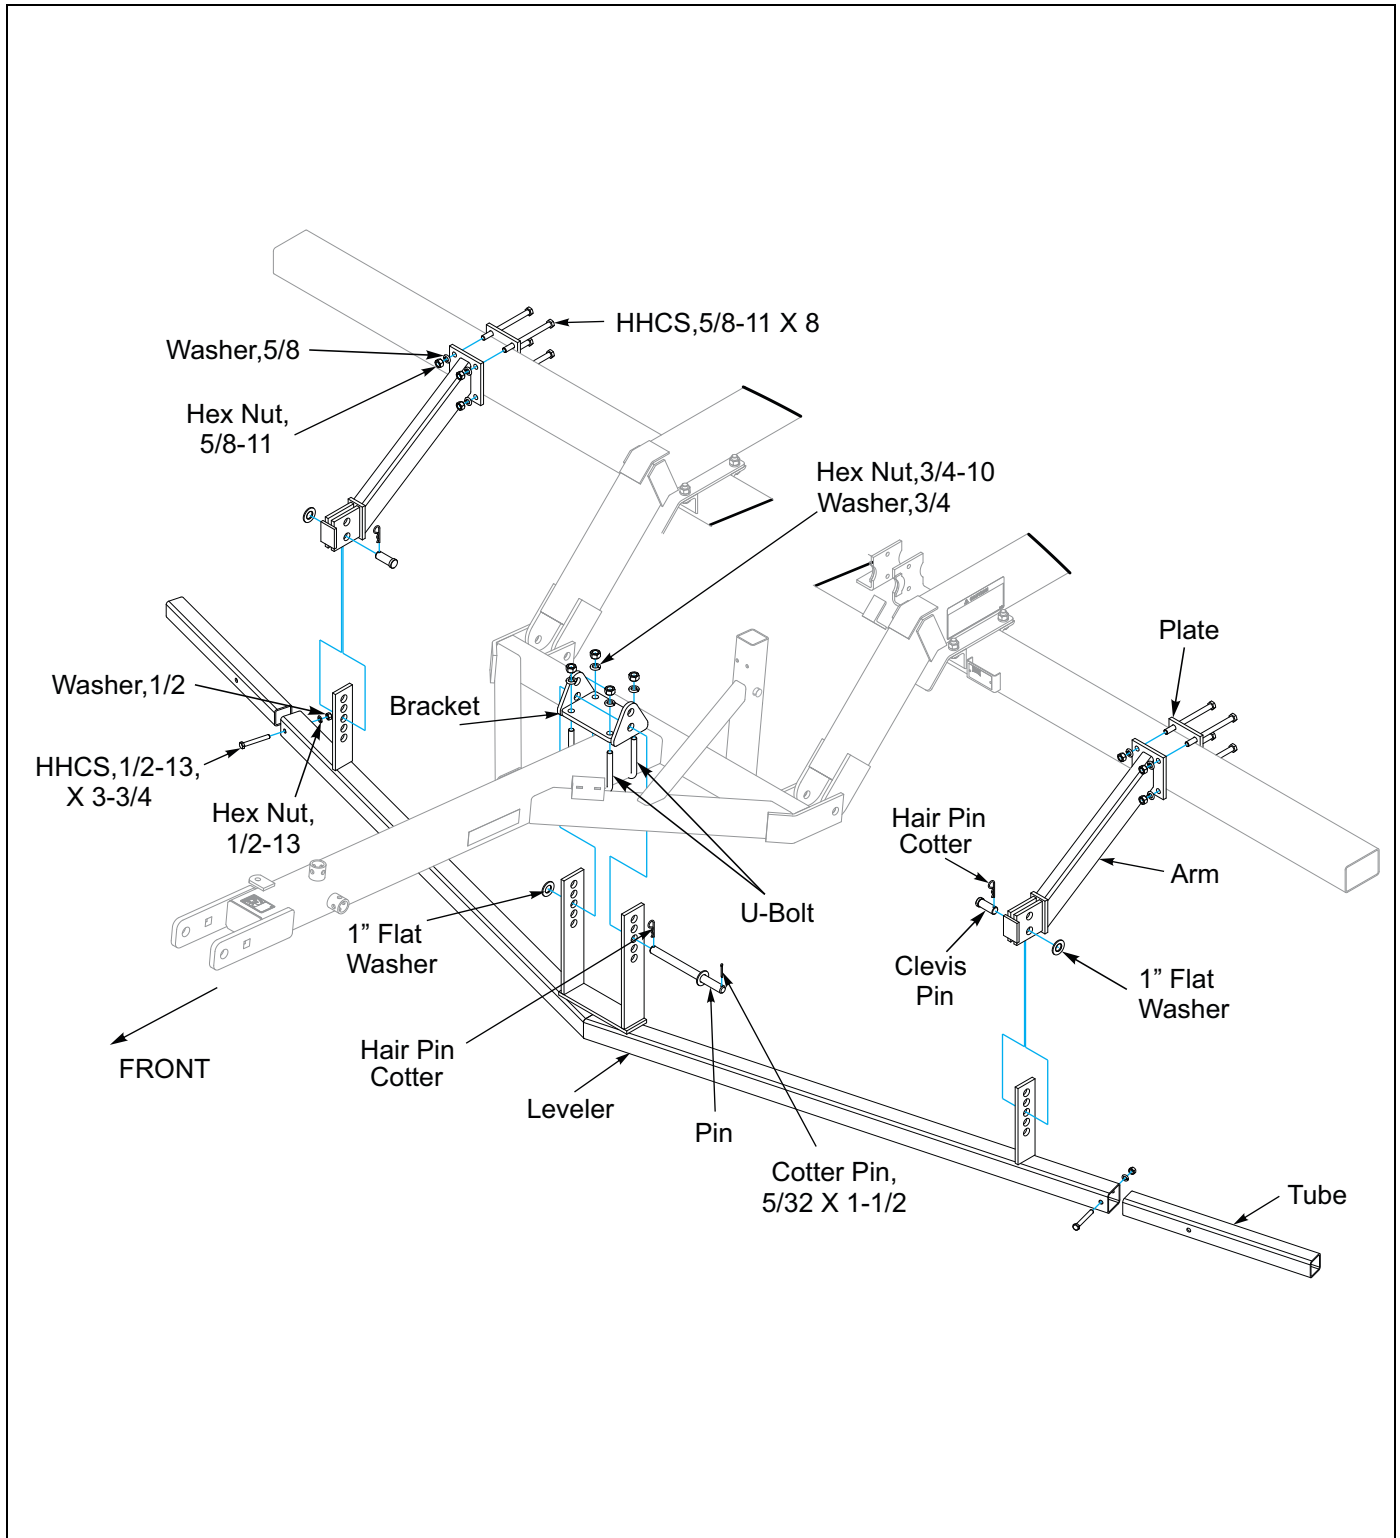

Figure 2-33: V - Leveler
**Note:** Position Leveler Weldment, centered in front of the Pulvi-Mulcher. Attach to Frame and Drawbar with Brackets and Hardware items shown. Vertical Adjustment may be required in the field. **See Figure 2-33.**